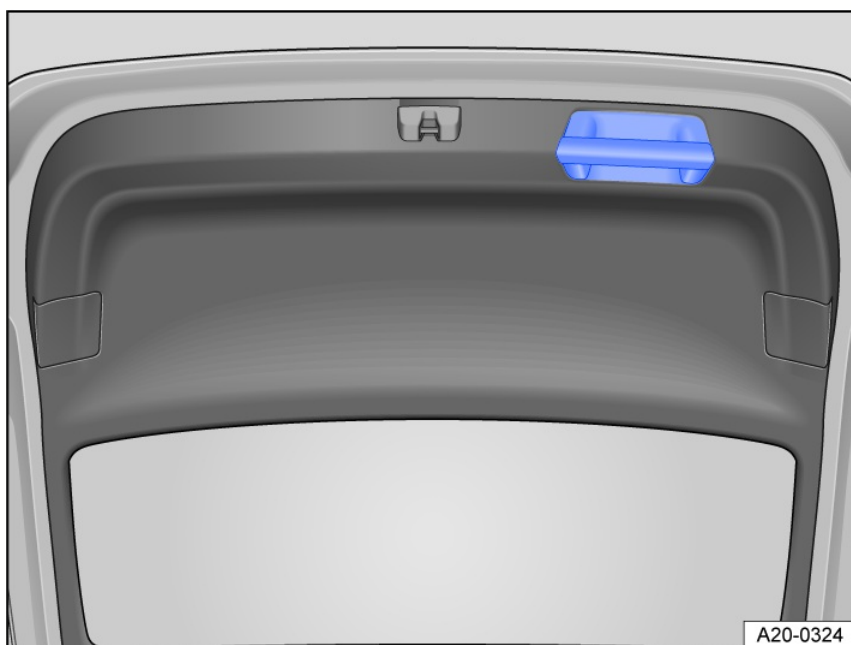

Fig. 54 In the open trunk lid: handle for closing the trunk lid.
1. Pull the trunk lid downward firmly using the handle in the interior trim panel until it latches shut in the lock fig. 54, ⇒ .